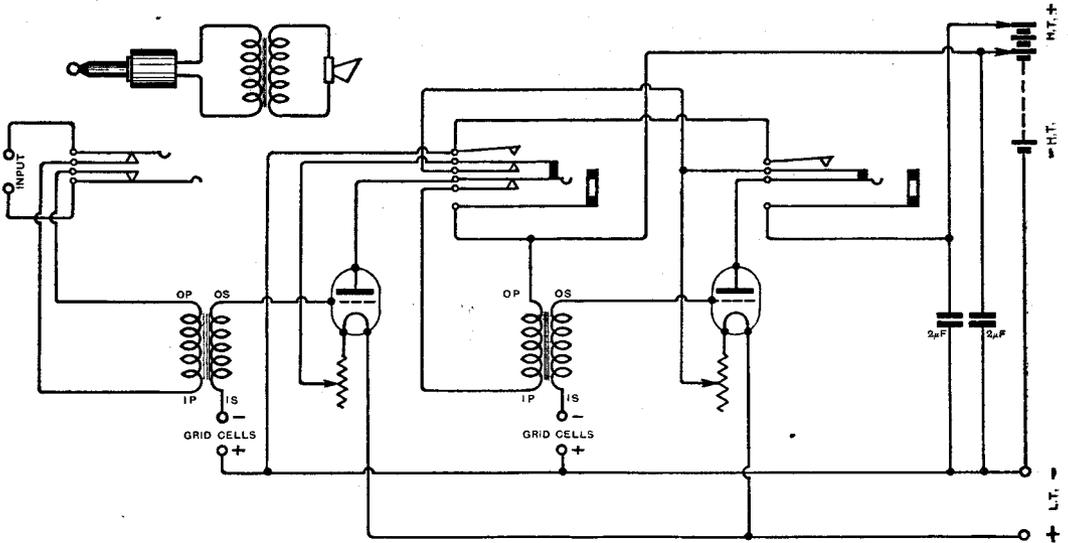

Fig. 2. “R.T.” (Oldham). A two-valve power amplifier in which the number of valves in use may be controlled by telephone plugs and jacks.
(1) A suitable circuit is given in Fig. 2. We recommend the use of telephone plugs and jacks for the control of the number of valves in use. When
largely upon the condition of the battery and its internal resistance. Often it is possible to operate a receiver successfully without any H.T. condenser when the batteries are new. When more than one H.T. tapping is employed, it is advisable to connect separate condensers between each tapping and —H.T., as in Fig. 2. Each of these condensers may be given a capacity of $2\mu\text{F}$, as you intend to use power valves which consume a rather higher H.T. current than valves designed for general reception.